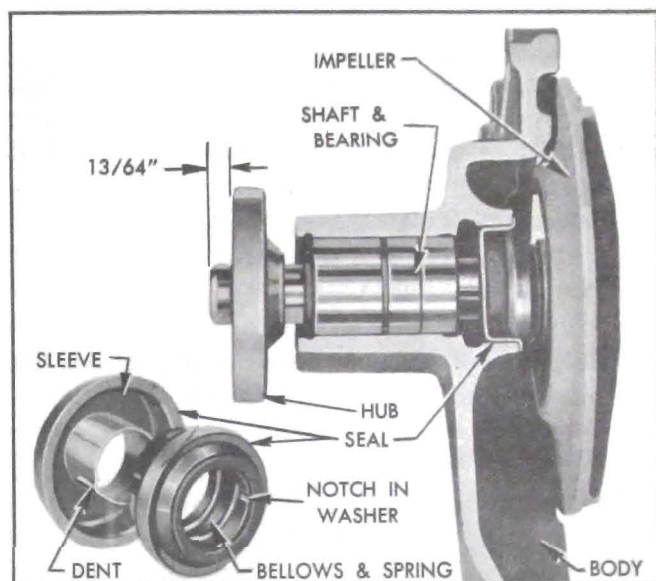

Figure 2-38—Water Pump Parts
7. Check pump shaft bearing for end play, or roughness in operation. If bearing is not in servicable condition, press the fan hub off the shaft then press bearing out toward FRONT of pump cover. See figure 2-38.
2. Use care to start the fan hub squarely on front end of bearing shaft and press it into position $1\frac{3}{64}$ " from end of shaft. See figure 2-38.
Install the carbon washer, bellows and spring assembly in the old sleeve in pump body, being careful to engage the two notches in washer with the driving dents in brass sleeve. See figure 2-38.